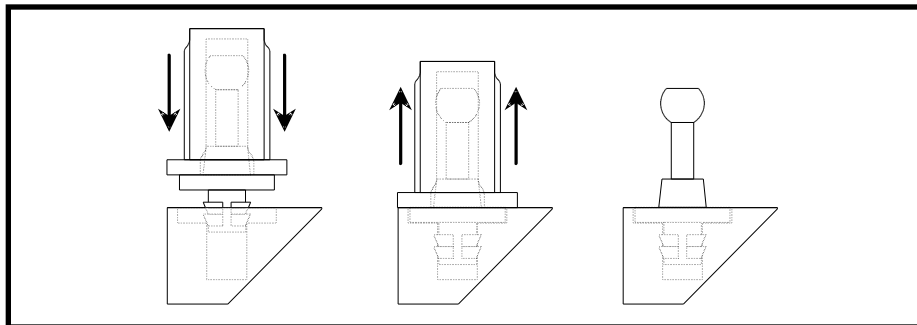

Figure 2.6 - Installing grille pin into Opus Ceramic grille frame. Note that after installation, the grille pin flange is flush with the surface of the grille.
5. Place the exposed end of the grille pin in the open mounting hole. Check to insure that the grille cloth is not trapped between the pin and frame. Use a small hammer and gently tap the new grille pin in place. Then, pull the insertion tool off the new pin and verify that the pin flange is flush with the surface of the grille. Please refer to Figure 2.6.